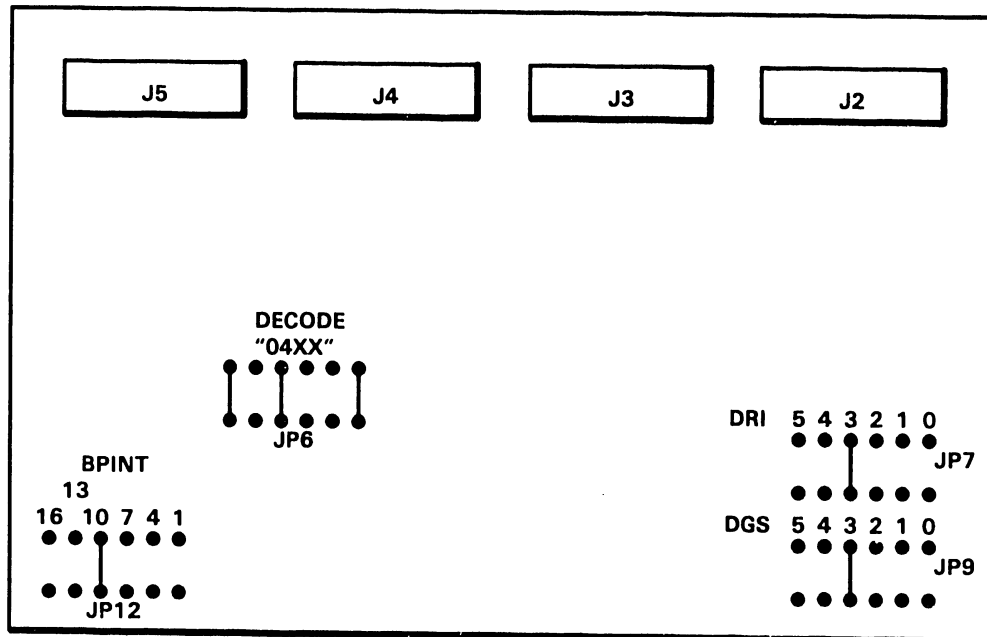

Figure 5-8. 210-7906 Serial I/O Adapter
7. Check the jumpers (figure 5-8) on the device adapter and install the adapter in Motherboard slot number #4. (Workstation 0 must be connected to port #0 of this DA. This is a microcode convention and MUST be adhered to. (Refer to paragraph 4.11.2.) Insert the new adapter in the board guide and lower it to the Motherboard connector.